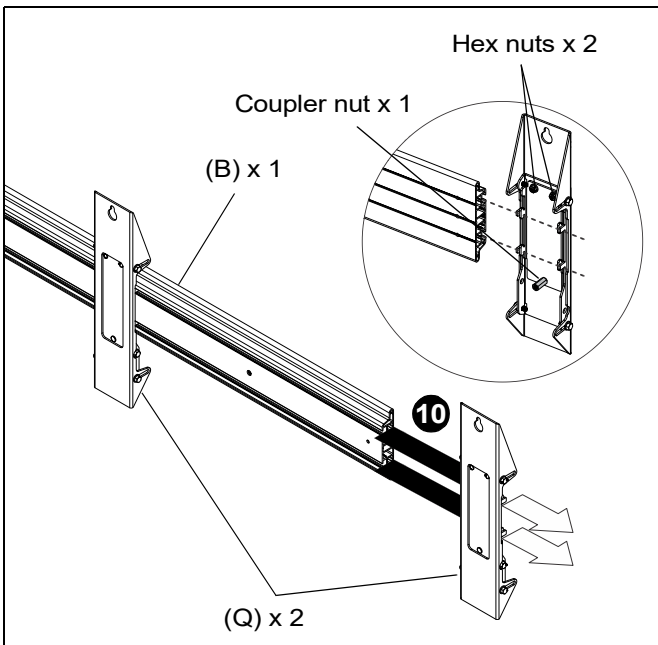

Figure 4
8. Remove the two 1/4-20 x 1/2" hex screws from each top upright (E).
9. Remove both end caps (Y) from the mounting rail (B).
10. Line up the slots in the mounting rail (B) with the tabs in the mounting brackets (Q) and slide into place. Adjust the position of the mounting rail so that there is an equal amount of overhang on both sides. (See Figure 4)